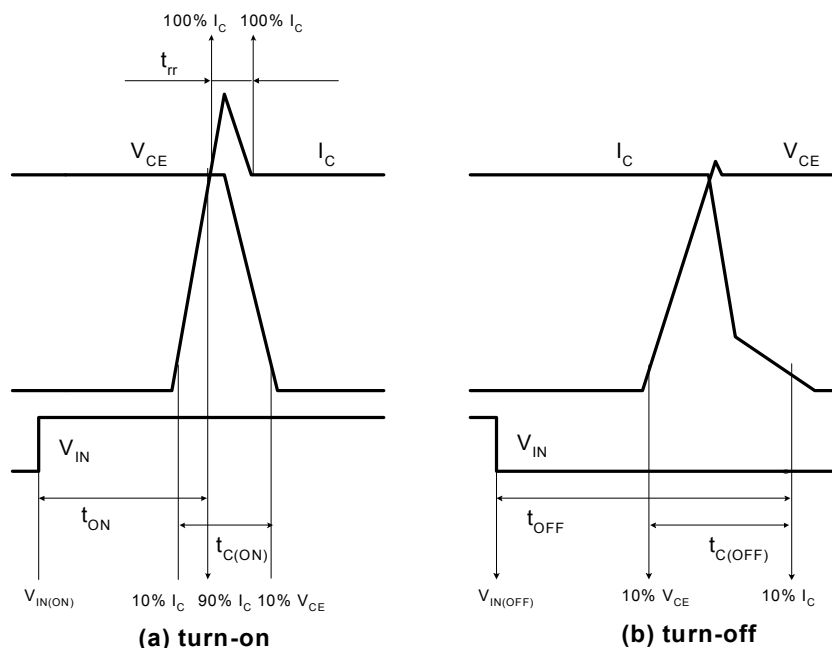

Figure 4. Switching Time Definition
3. tON and tOFF include the propagation delay time of the internal drive IC. tC(ON) and tC(OFF) are the switching time of IGBT itself under the given gate driving condition internally. For the detailed information, please see Figure 4.